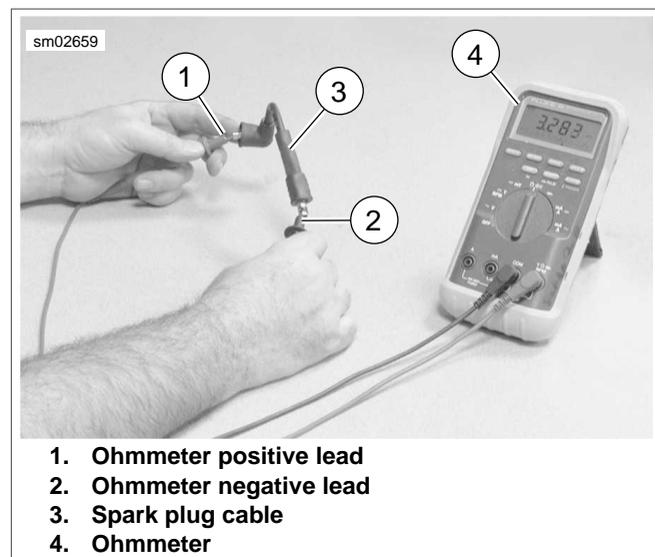

Figure 1-36. Testing Resistance
3. See Figure 1-36. Check spark plug cable resistance with an ohmmeter. Compare values from test with Table 1-16. Replace cables not meeting resistance specifications.